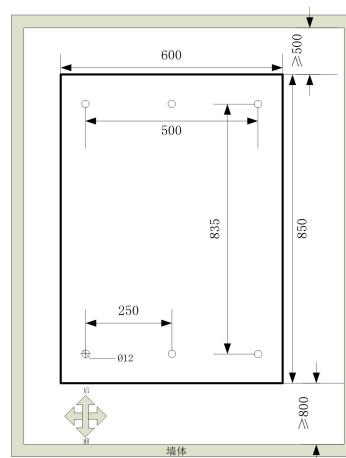

Fig. 3-4 Hole size of 160/180/200 kVA
Step 1: Determine the installation position and mark the positioning on the installation surface according to the hole location size diagram. The size diagram of 80/100/120kVAUPS is same as the diagram of 160/180/200 kVA UPS, take 160/180/200 kVA UPS as an example shown in Fig. 3-4.